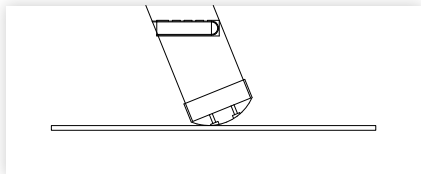

figure 12
4. Fix the rubber feet to the bottom of the ladder with the screws provided (figure 12).